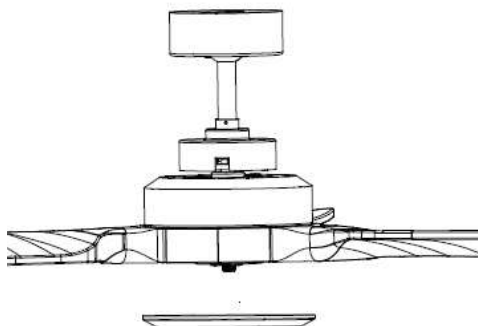

Fig. 6
- Install the bottom cover onto the motor shaft by rotating it clockwise. (Fig. 6)